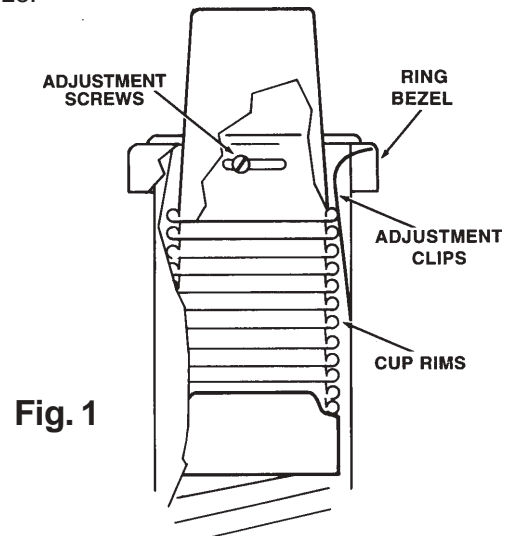

Fig. 1
- Insert a stack of approximately 12 cups, rim first, so that the rim of the top cup is located slightly below the top portion of the adjustment clips. (see Fig. 1)